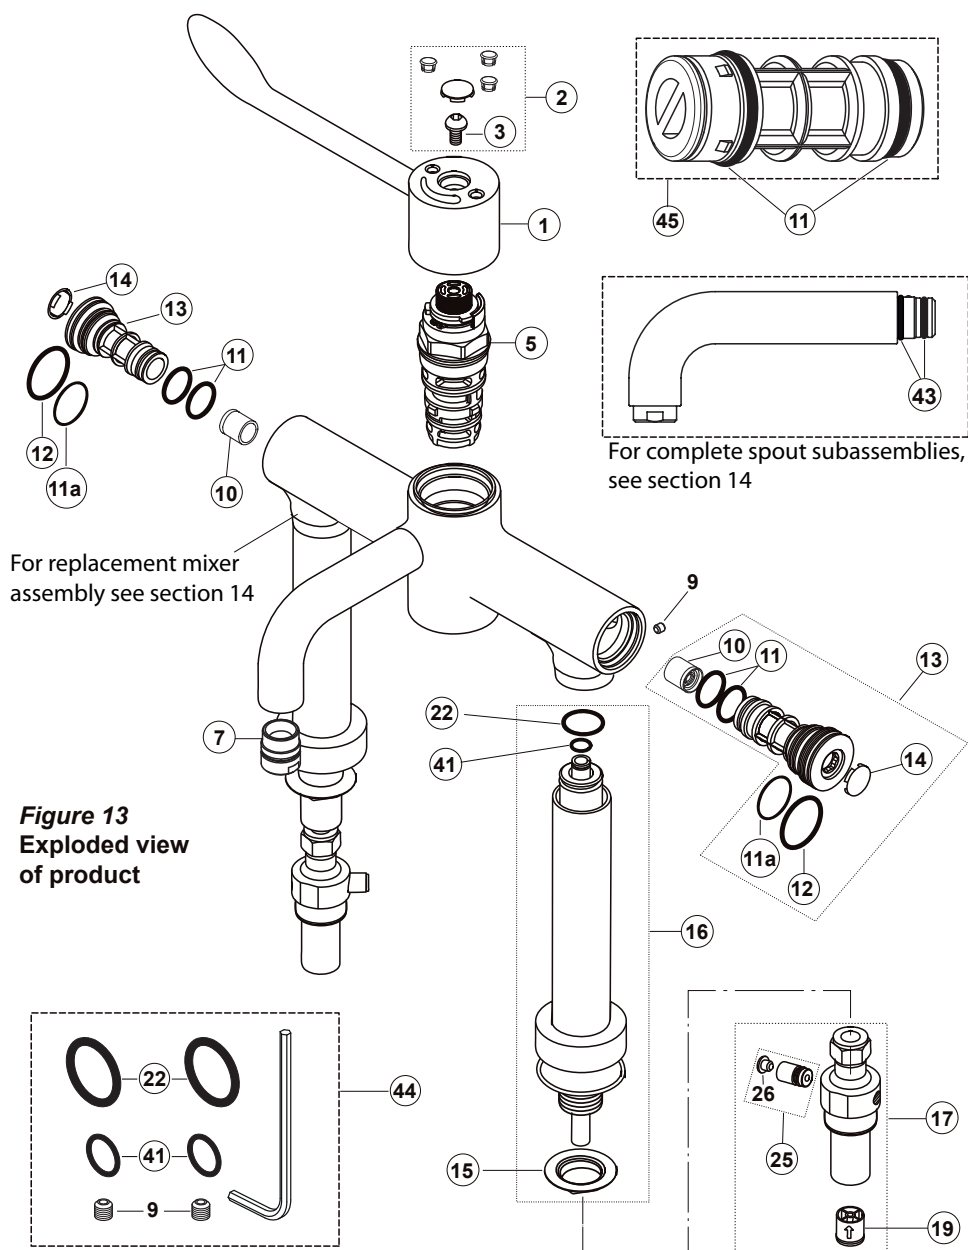

Figure 13
To prevent back siphonage of water to the supply pipes, check valves are fitted inside the inlet tails (19) – see figure 13.
*To achieve a suitable flow rate where supply pressures are very low it may be necessary to remove the flow regulator (**item 10 figure 13**).